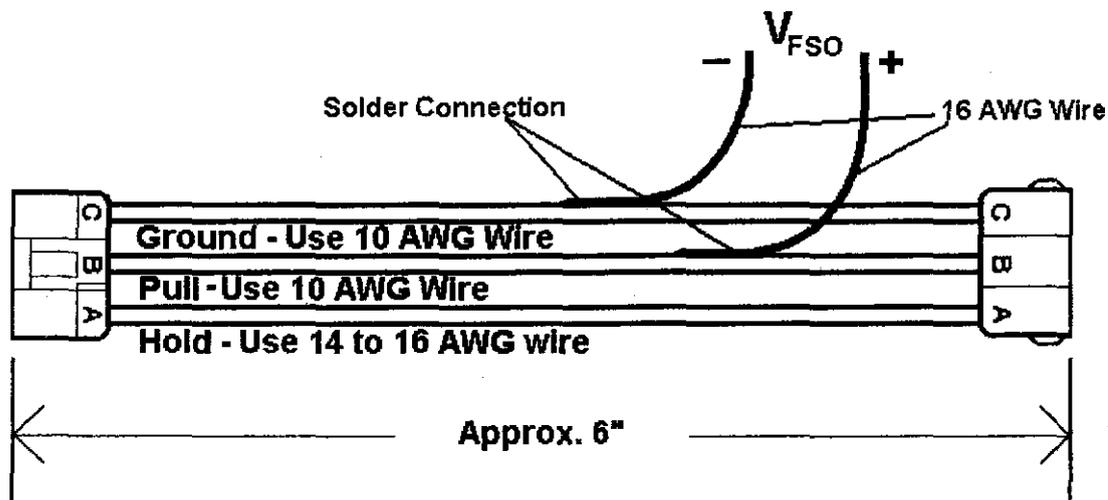

Figure 2: Fuel Shutoff Solenoid Breakout Harness
2. Instrument a means to measure fuel shutoff solenoid pull in coil voltage. The voltage should be measured at the fuel shutoff solenoid side of the connector. A breakout harness is a nondestructive method of obtaining this measurement (see Figure 2).